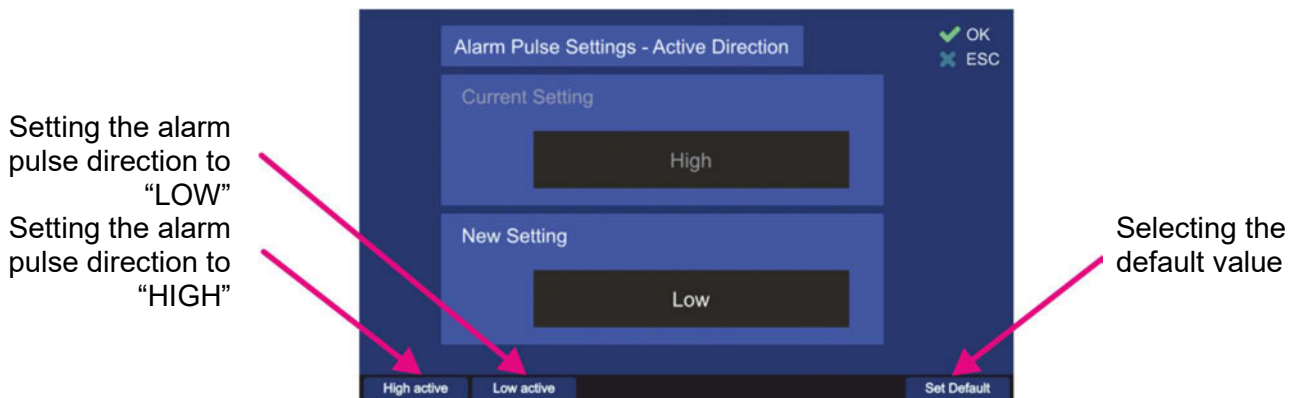

Figure 113. Active direction dialog
- By pressing the hotkey “Edit Value”, the dialog for changing the active direction of the alarm output will be opened. The handling of this dialog is shown in Figure 113.